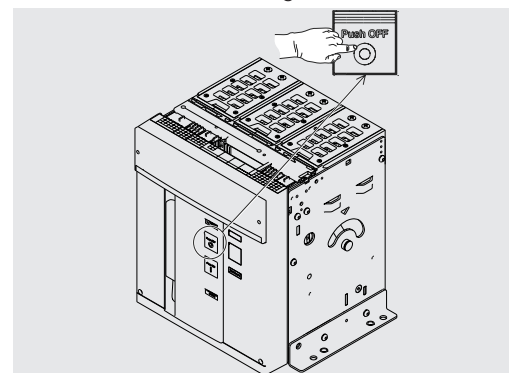

Figure 30
6. Opening - Press the opening pushbutton "O - Push OFF" as indicated in Figure 30.